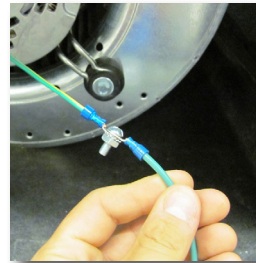

**Fig. 2 - L-Shaped Box**
2. Unplug motor plug from control board and remove from L-Shaped box. Plastic grommet can be removed by squeezing the sides with needle nose pliers. (Fig. 2)